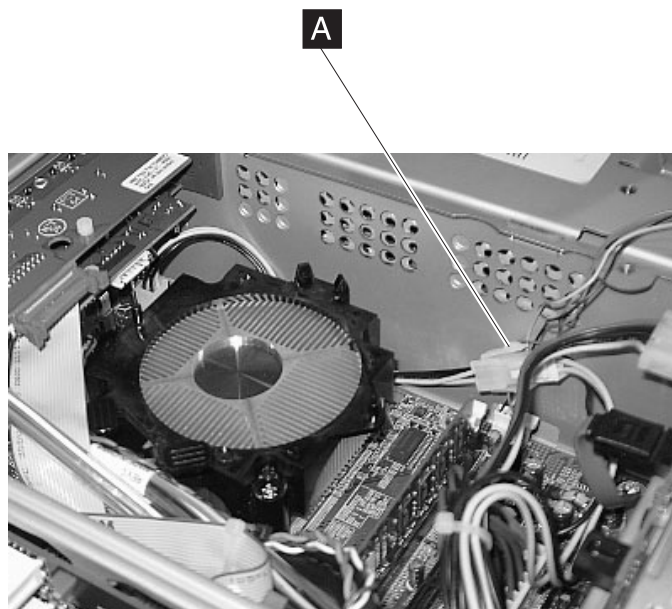

Figure 15. Processor power cable
- Models 742 and 782 contain a processor power cable. See **A** in Figure 15 on page 26